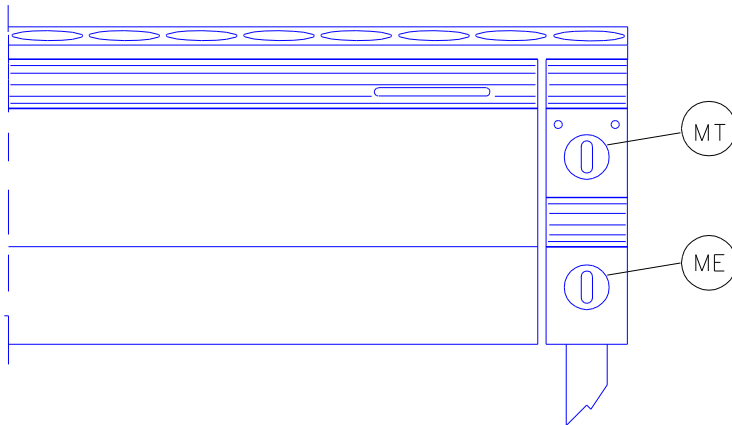

Fig.1 - Abb. 1
6.3 Use of the braising pan (fig. 1)
The knob of the power controller **ME** (fig. 1) is marked with the following symbols:
- Disconnect the heating system turning the knobs **MT** and **ME** (fig. 1) to 0: the green and yellow LEDs get off.
- In case of any fault, stop the equipment operation turning the knobs **MT** and **ME** (Fig. 1) to 0.